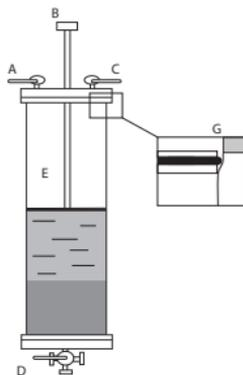

Fig 3. Schematic representation of INdEX column with a 4-port (2-way) valve mounted at the bottom outlet.
- 2** Pour the 75% slurry into the column. Fill the column with packing solution up to the top of the glass tube and mix the slurry. Allow the resin to sediment to just below the bevel of the glass tube (G), see Figure 3, on page 19.
- 5** Connect a pump to the inlet of the hydraulic chamber (A), with a manometer and a pressure relief valve in-line between the pump and the hydraulic chamber. The manometer must be placed after the valve in the direction of the flow.
- 6** Open the hydraulic inlet (A), and the hydraulic outlet (C). Start the pump and flush the hydraulic chamber (E) free of air and any residual resin.
- 7** Close (C) and open the elution inlet/outlet (B) to allow trapped air in the adapter bed support to escape.